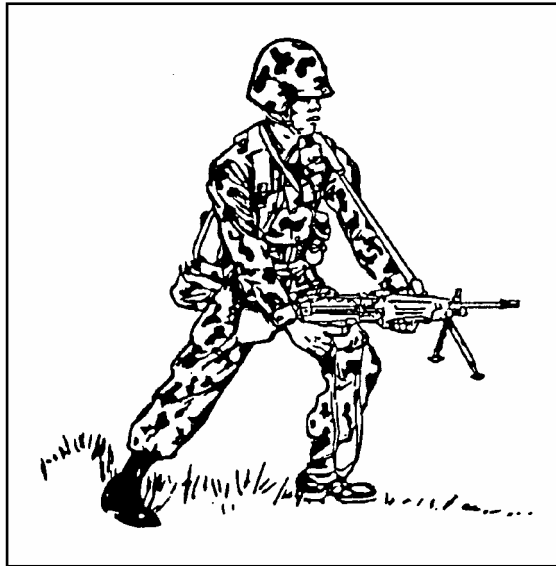

Figure 071-010-0006-5. Hip firing position
2. Fire the weapon using the correct sight picture (figure 071-010-0006-6).
- a. Sight alignment. Center the front sight post in the peep sight (A, figure 071-010-0006-6).